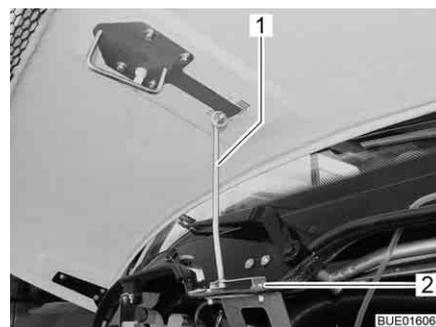

Fig. 43 Bonnet support
- Unfold the support (Fig. 43,1) and attach to the holder (Fig. 43,2).